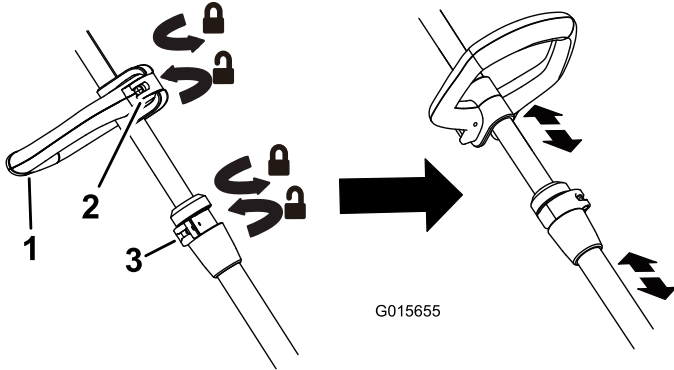

Figure 3
- To adjust handle height, flip the auxiliary handle latch, slide it up or down to the desired height, then secure it in place by closing the latch (Figure 3).
- To adjust the trimmer height, open the height adjustment latch, then slide the shaft up or down to desired height, securing it in place with the latch (Figure 3).